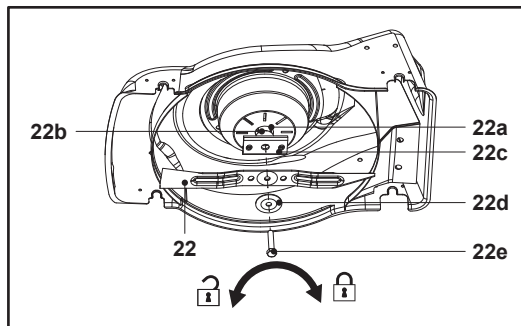

Fig. 18
5. Replace the cutting blade (22) with a new one of the same type. Refit the blade holder (22c) together with inner bushing (22b) to the spindle (22a), make sure that the slot of blade holder (22c) pass through the pin to the end of spindle (22a). Check the status of the flange onto the blade holder (22c), then attach the cutting blade (22) properly, fix the assembly with the washer (22d) and hex bolt (22e). Tighten the hex bolt (22e) clockwise with 28 Nm min, 32 Nm max. to ensure safe operation of your machine (Fig. 18).